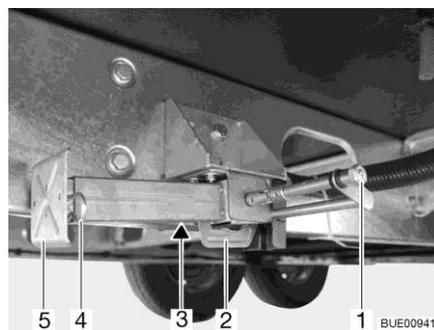

Fig. 44 Steady leg
- Place the socket spanner on the hexagonal nut (Fig. 44,1) and rotate until the steady leg is in a perpendicular downward position.
- If the length of the steady leg can be adjusted, remove the splint (Fig. 44,4) out of the support foot extension (Fig. 44,5).
- Place the socket spanner on the hexagon nut (Fig. 44,1) and rotate until the steady leg is clear of the ground.
- Push in the support foot extension (Fig. 44,5) and insert the splint (Fig. 44,4) in the drilled hole in the support foot extension.
- Rotate the hexagonal nut (Fig. 44,1) until the steady leg has swung upwards and the guide (Fig. 44,2) has reached the very end of the slot (Fig. 44,3).